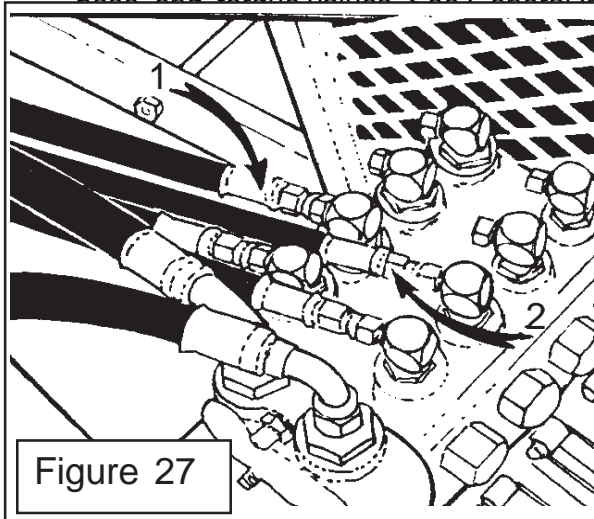
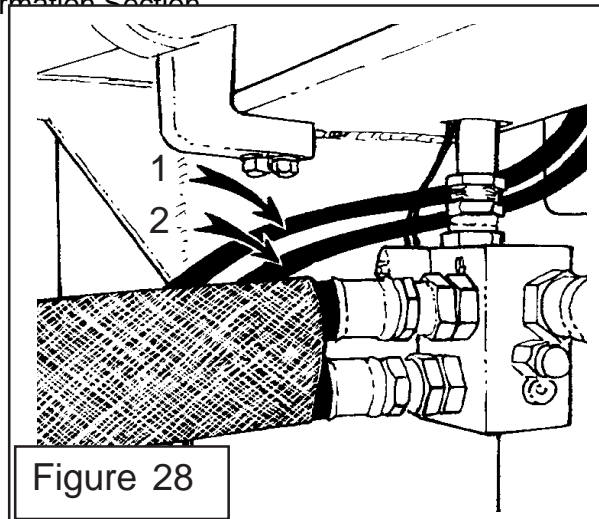
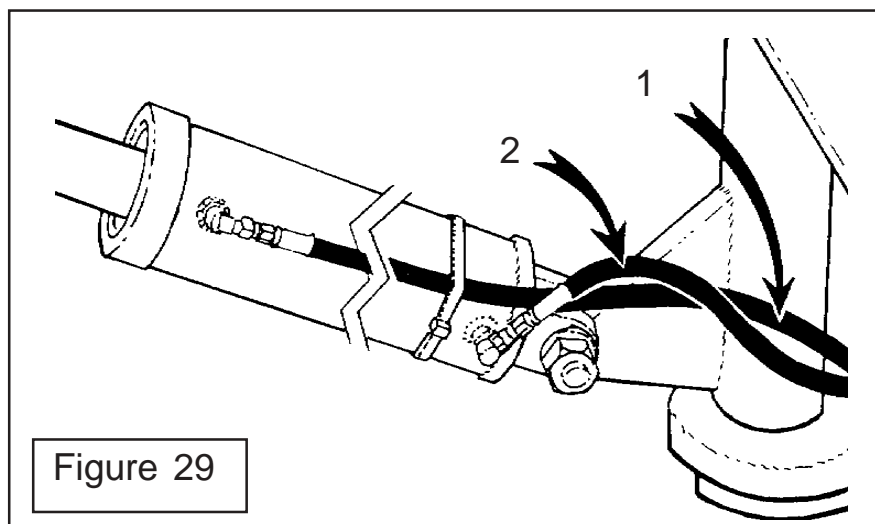

Figure 27
Figure 28
Figure 29
11. Attach the 1/4" hoses (item 1 and 2) from the Control Valve (See Figure 27) routed around Solenoid Valve (See Figure 28) to the Lift Cylinder (See Figure 29). Use recommended hose and torque values. See General Information Section.